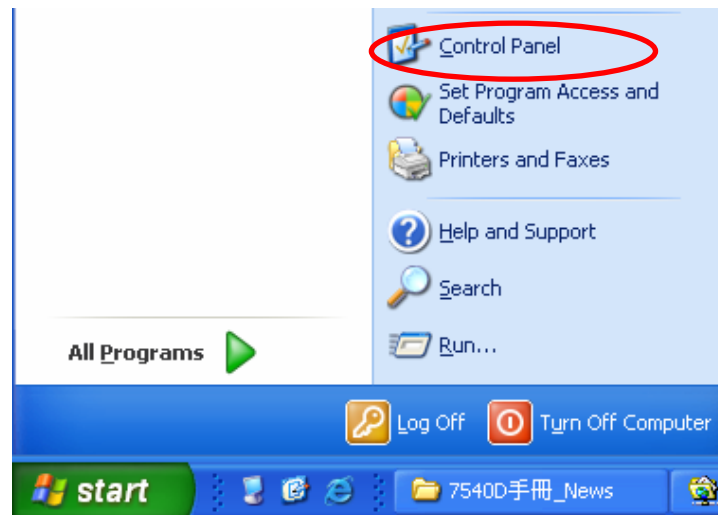

Figure 3-7: Select settings
Step 1: Click “Start” in the task bar, then click the “Control Panel” as shown in figure 3-7.